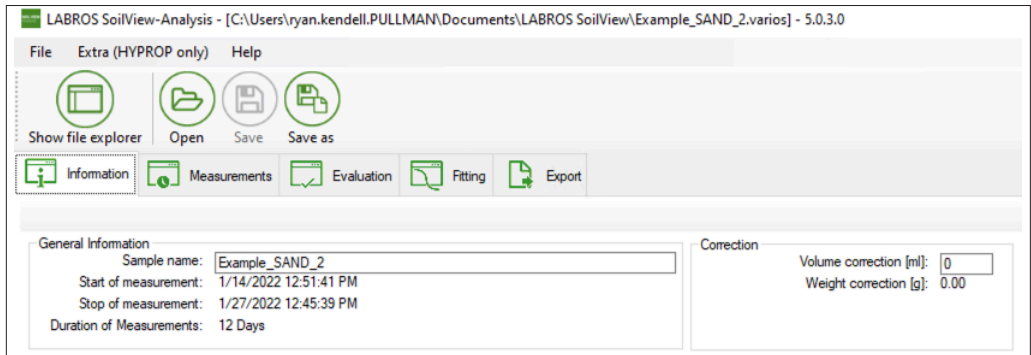

Figure 10 Volume correction in LABROS SoilView-Analysis software
5. Enter the volume in mL under the Information tab in the LABROS SoilView-Analysis software (Figure 10).